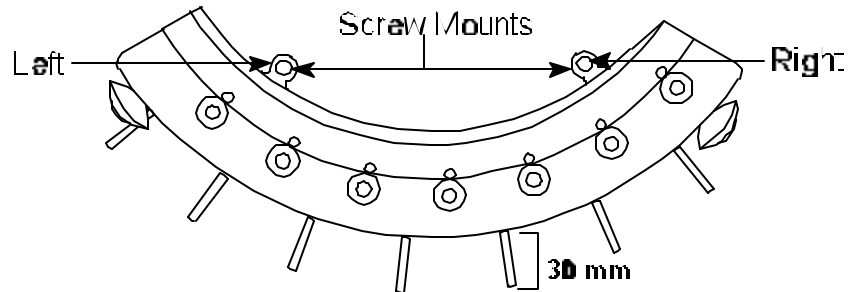

Figure 17
31. **Replace** Thread Apron. With both hands holding Thread Apron, insert right side first then follow through with left side. See *Figure 17*.